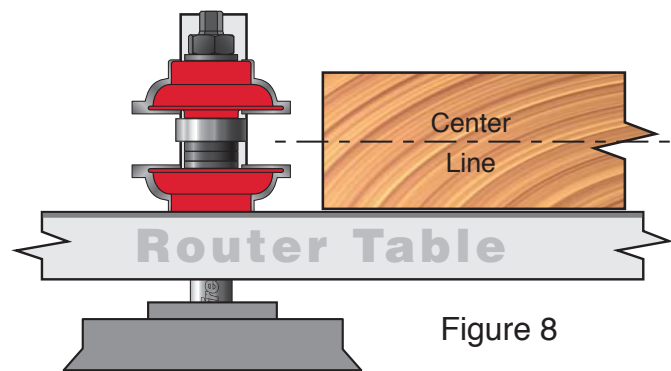

Figure 8
- Set the height of the bit so that it is vertically centered in your stock, as shown in Figure 8.